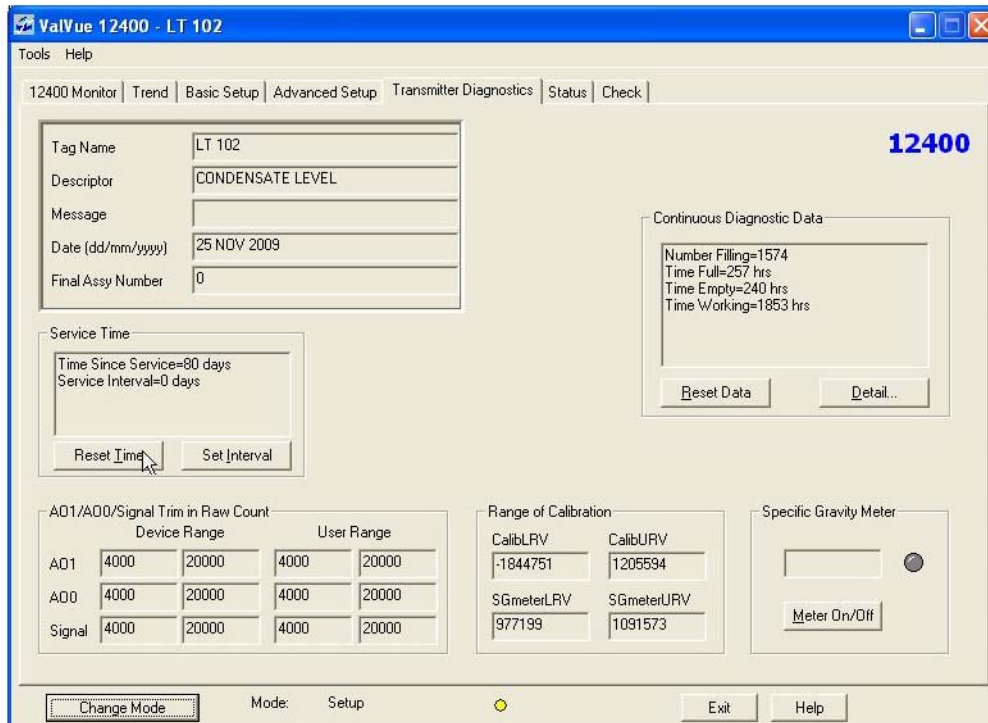

Figure 256 Selecting Reset
1. Click **Reset** (Figure 256).